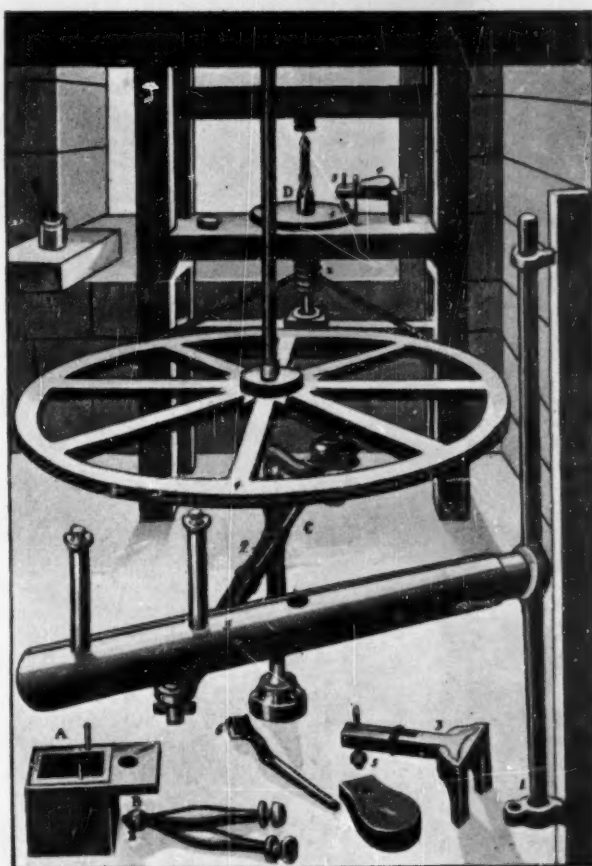

FIG. 1.
The whole position with regard to the working and shaping of diamond was radically changed by the discovery that diamond facets could be polished with crushed diamond powder. The real origin of this discovery is wrapped in mystery and secrecy. It certainly appears to be a European invention. It has been claimed that both in Paris and in Nuremberg the polishing art was secretly practised in the 13th century. What is certain is that fully matured polishing techniques were operating in the Netherlands during the 15th century. Traditionally Berghem (1476) is given the credit for inventing the polishing of diamond with diamond dust, but it seems evident that it might well have been long known. Benvenuto Cellini described in 1568 the current method then in use, and this might well be a description of modern practice. For apart from replacing the treadle worked by manpower with the rotating polishing discs of machines, it is a matter of real astonishment that our modern polishing methods of holding the diamond and of treating it are virtually identical with those known to be in use 400 years ago. The accompanying print (Fig. 1), published by the Frenchman Felibien in 1676, shows the technical equipment used in the 17th century for diamond polishing. There is the familiar horizontal grinding wheel (D), spinning about a vertical axis. The diamond is held in a dop and tang (3), precisely of the kind still in use. Both the cleaver's box (A) and the bruting sticks (B) are still used today. On the shelf at the left is a pestle and mortar for pounding diamond splinters into grinding powder. Replace the hand drive by a small electric motor and any modern diamond polisher craftsman would consider he was looking at the tools in a contemporary polishing shop. Of course as yet, diamond sawing had not been invented, this had to wait until the late 19th century. This already points to the fact that the 15th- and 16th-century techniques were fully matured and therefore probably long established. I see no reason to doubt the conjecture that polishing was already employed in the 13th century.